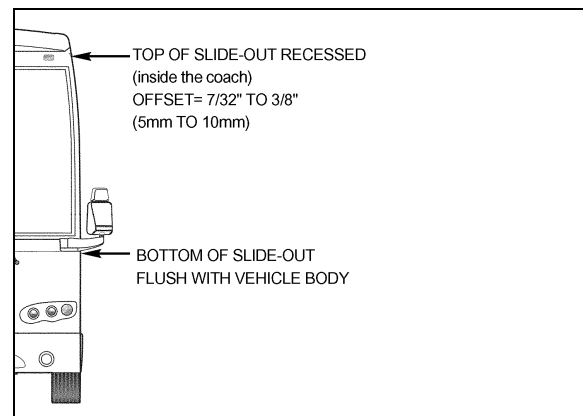

FIGURE 24: TILT ADJUSTMENT
5. Using levelling screw 3, adjust the tilt in order to have the top of the slide-out recessed between 5mm and 10mm (7/32" and 3/8") (see FIGURE 24).